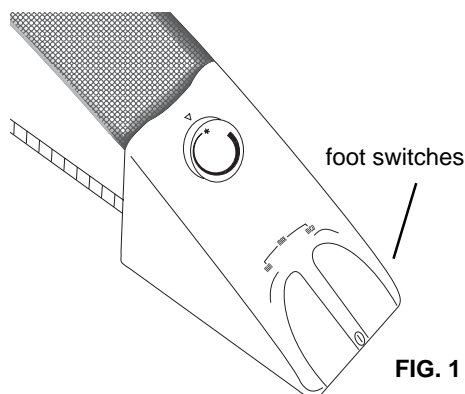

FIG. 1
3. SWITCHING ON THE APPLIANCE (FIG. 1)